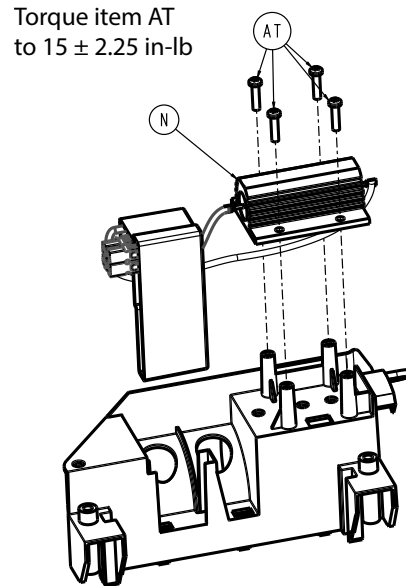

Figure 27 –
4. Using a T20 Torx driver, remove the four pan head thread forming screws (AT) that secure the backdrive board (N) to the power box PCBA mount (Figure 27). Save the screws.